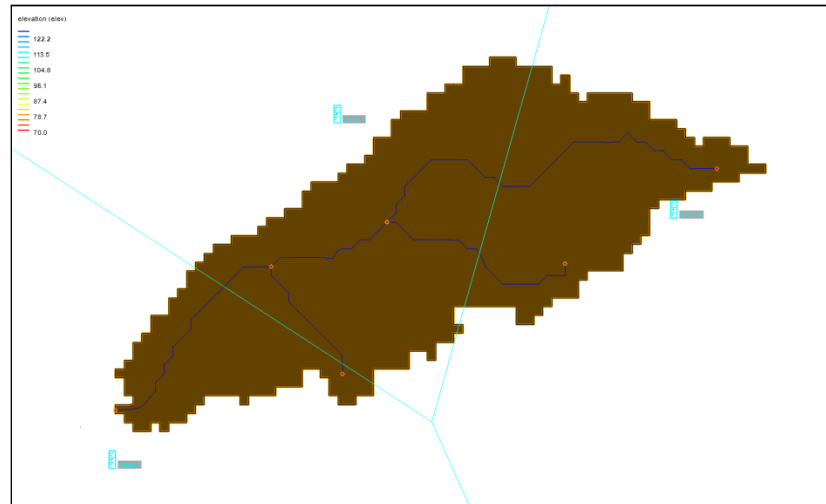

Figure 1 Beginning GSSHA model
4. Click **Open** to open the project and exit the *Open* dialog. The project should look similar to Figure 1 below.